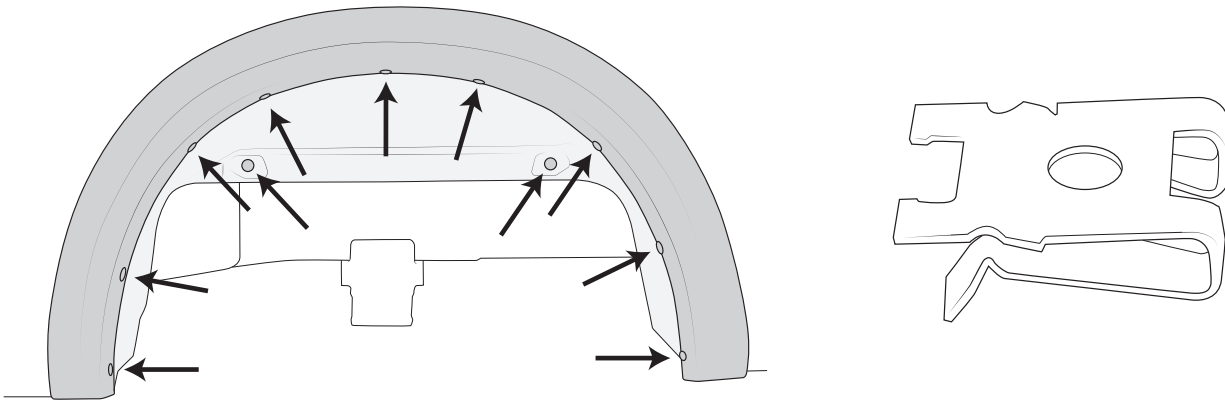

Figure 1 Remove factory flares
2. Remove the factory wheel flares (if equipped) and wheel house liners (fig. 1).